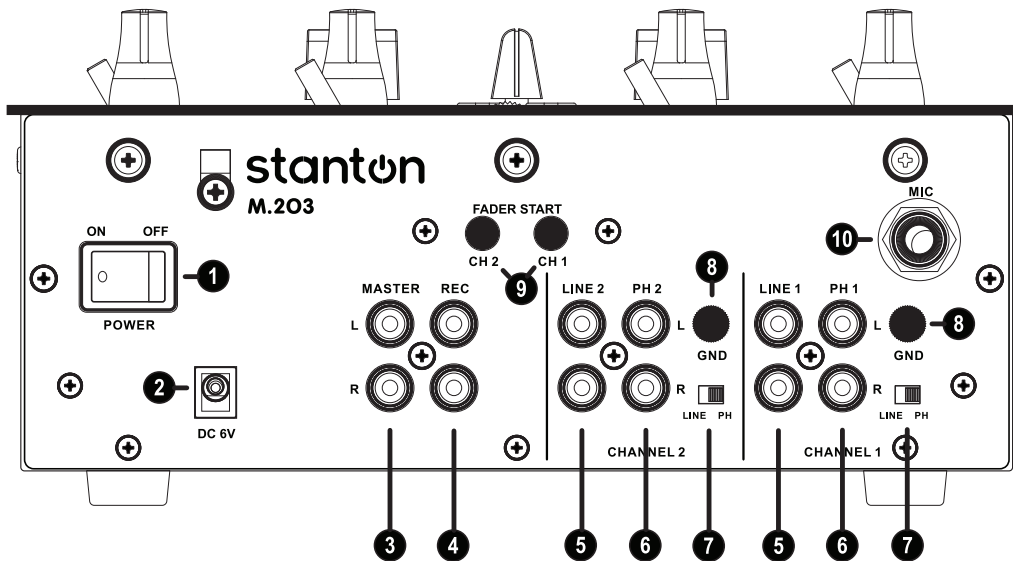

Figure 3.3
3.3 M.203 Description - Rear Panel (Figure 3.3)